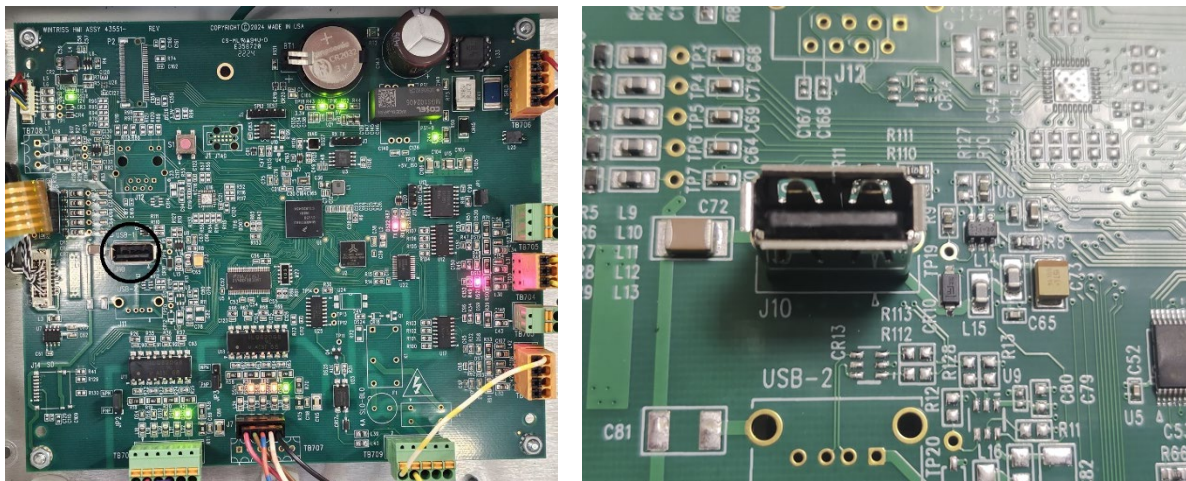

Figure 38. USB Receptacle on the Back of the Display Board
3. Insert the USB stick into the J10 USB receptacle on the back of the display board, Figure 38.